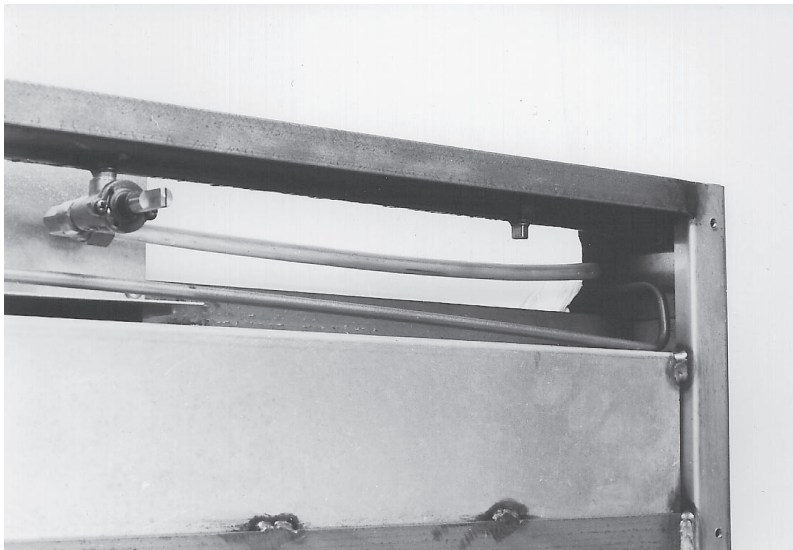

Fig. 5
3. With a $\frac{5}{8}$ " wrench disconnect the elbow compression fitting. (Fig. 5)
4. Disconnect the valve from the manifold pipe. (See Fig. 5)